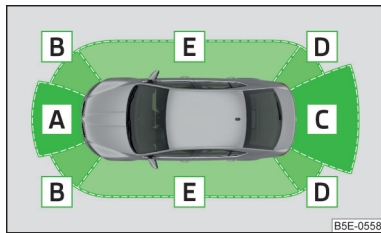

Fig. 149
Depending on the equipment, the following system versions can exist » Fig. 149.
When towing, or when another accessory is connected to the trailer socket only the areas **A** and **B**» Fig. 149 are active in the system.
- The display can be interrupted by pressing the symbol key **P** » Fig. 149 on page 139.